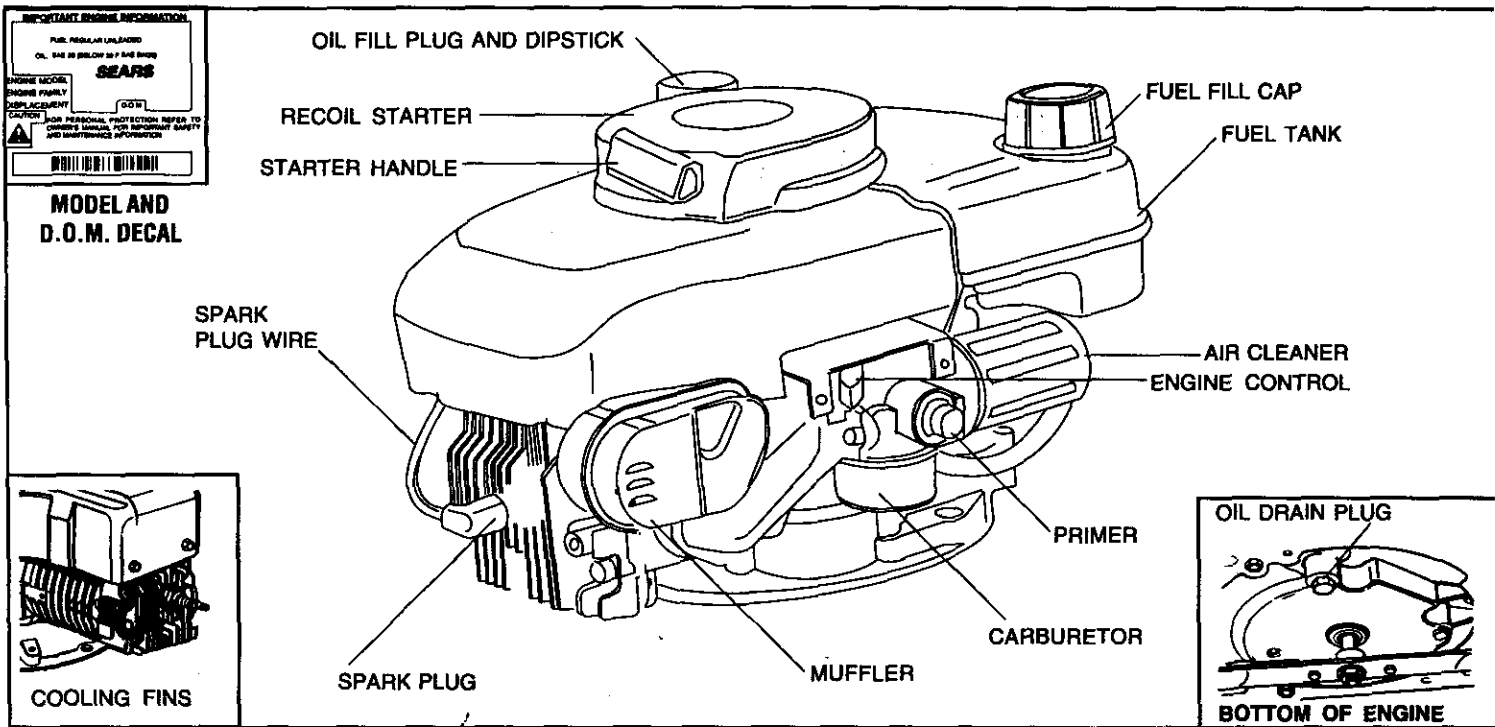

Figure 1
- Clean area around oil fill plug (see Figure 1).
⑤ CHECK THE FOLLOWING:
B. Be sure spark plug wire is attached to spark plug (see Figure 1).
① Move engine control (see Figure 1) to HI Position.
② START ENGINE:
ENGINE SPEED: Engine speed is controlled by the engine control (see Figure 1). Engine control should be in HI position for high grass conditions and for most efficient bagging in heavy grass conditions, and in LOW position for light grass, trimming and for fuel economy.
C. Remove oil drain plug and oil fill plug to drain oil (see Figure 1).